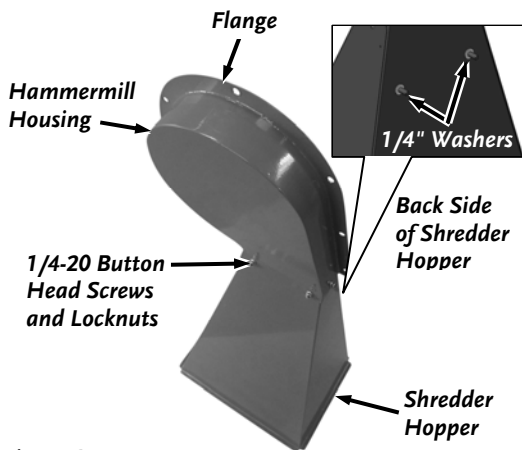

Figure 6
3. Position the larger end of the Shredder Hopper on a flat surface and set the Hammermill Housing over the Shredder Hopper (**Figure 6**). Secure with four 1/4-20 Button Head Screws on the inside and 1/4-20 Locknuts on the outside using a 5/32" Allen Wrench for the Screws and 7/16" Wrench for the Locknuts.